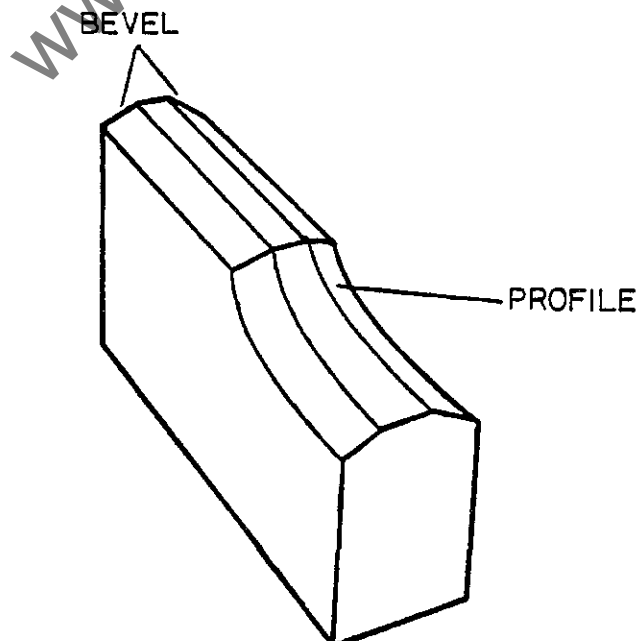

FIG 3
- 1) The profile to be used is first marked out on the stone, which is then hand-ground to the required shape, using a profile template. It is good practice to finally bevel the stone edges (see Fig 3).